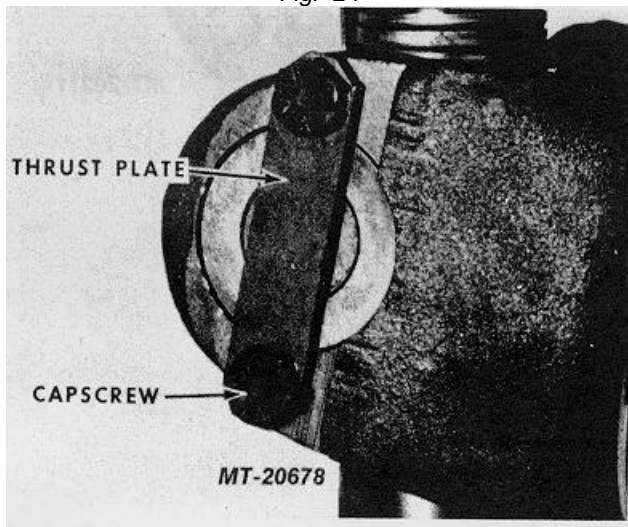

Fig. 25
2. **THRUST PLATE CONSTRUCTION** (Fig. 25) Remove capscrews and plate. The balance of, the disassembly and assembly instructions are the same as those for snap ring joints.